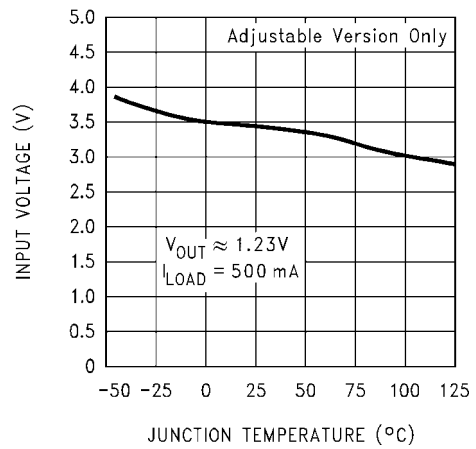

图 6-10. Minimum Operating Voltage
(1) External components such as the catch diode, inductor, input and output capacitors can affect switching regulator system performance. When the LM2576/LM2576HV is used as shown in 图 8-3 and 图 8-9, system performance is as shown in 图 6.10.